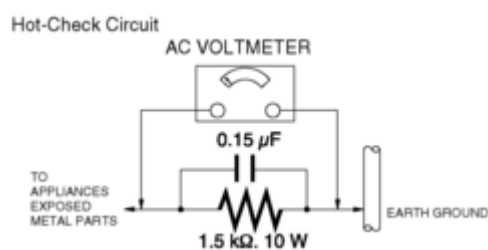

Figure. 1
1.3 Leakage Current Hot Check (See Figure. 1)
- Connect a 1.5 k Ω , 10 W resistor, in parallel with a 0.15 μ F capacitor, between each exposed metallic part on the set and a good earth ground, as shown in Figure. 1.